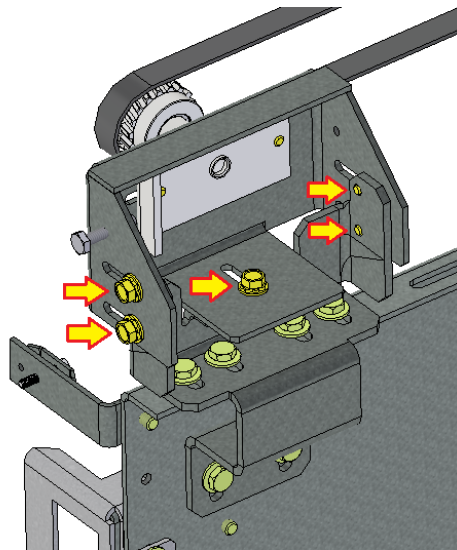

Figure 24: Tensioner Bolts for Belt Alignment
To adjust the tensioner assembly alignment, slide the door(s) completely open to where the clutch is nearest the tensioner. The tensioner has the same (5) bolt pattern and is adjusted in the same manner as the motor assembly, shown in Figure 24.